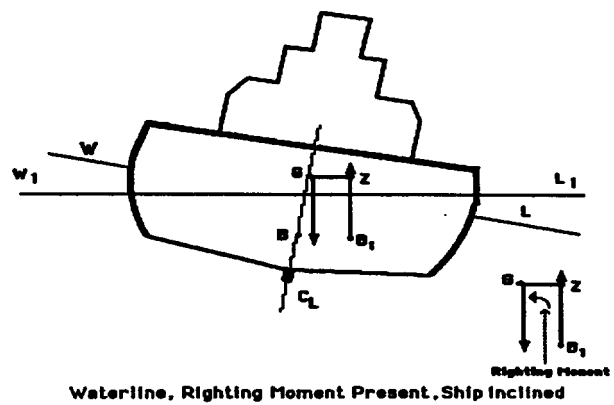

Fig. 7-5 Righting arm diagram
- e When a ship is in a position of equilibrium, the force of buoyancy and that of gravity are of equal magnitude, but acting in opposite directions. A ship undisturbed from its state of equilibrium by a number of external forces that heel it. These forces include those generated by shifting cargo; by free from flooding; or from fluids such as fuel and water shifting in tanks, wind, wave motion, current, icing conditions and the speed of the cutter through the water. When an external force is applied, the centers of buoyancy and gravity are no longer aligned vertically and these forces tend to rotate the ship, until a new position of equilibrium is found (positive stability) or until the ship capsizes (negative stability). These external forces exert heeling moments on the ship that may be short-lived or may last indefinitely. A stable ship does not capsize when subjected to normal disturbances because when it is inclined, the buoyancy shifts to one side of the center of gravity, creating a moment that tends to right the ship. This is called the righting moment (see **Figure 7-5**). The distance, GZ, between the parallel lines of force passing through G and B is called the righting arm. When the righting arm is reduced, perhaps by added topside weight, the moment moving the cutter back into equilibrium is lessened and the stability of the cutter is reduced.
- g Draft and trim have considerable bearing on cutter stability. A change in mean draft will affect the height of the meta center, thus altering, GM, and both draft and trim affect the cutter's reserve buoyancy. Safe operating parameters are listed in the stability booklet. Limiting Trim Diagrams, shown in Figure 7-5, are presented in most stability booklets. Although at first look these graphs can be quite confusing, they merely show a range of drafts and trims within which a cutter will have sufficient reserve buoyancy, even if flooded in various compartments.
- a Recognizing a Reduced Righting Arm. The signs of a reduced righting arm, or GZ (**Figure 7-5**), and a subsequent loss of righting stability are:
- (1) A long, slow roll compared to that which would be ordinarily expected for the wind and sea conditions.
- (2) The cutter's hanging at the end of a roll without quickly snapping back to an even keel.
- (3) The longer and slower the roll, the greater the danger of capsizing.